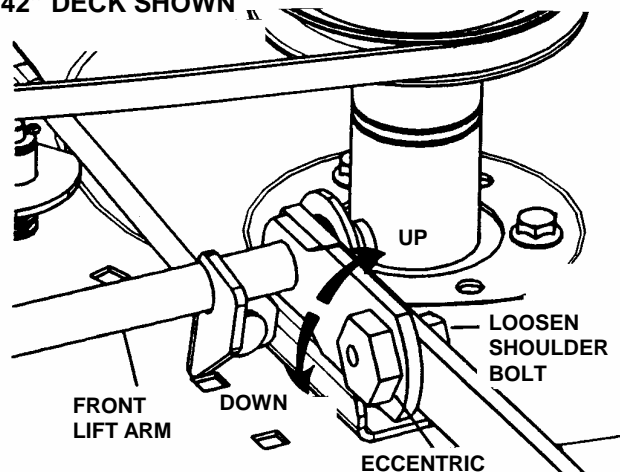

FIGURE 4.8
- Turn eccentric "UP" or "DOWN" as required until blade tips are within 1/8" of the same distance from the floor. See Figure 4.8.